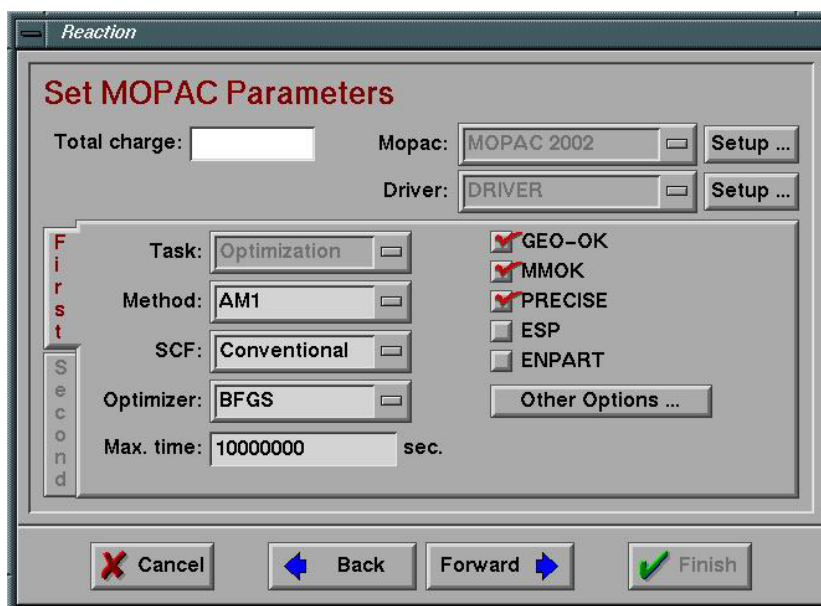

Fig 13.16 Window for specification of MOPAC keywords
- 12) Specify the parameters for MOPAC calculation (**Fig 13.16**). *Total charge* defines the total charge of studied model. It is dependent on the amino acids in the model. *Method* defines the type of semi-empirical Hamiltonian to be used for the calculation (AM1, PM3 or PM5). For *SCF* procedure conventional or much faster MOZYME option can be chosen (see *Introduction* section for more details). BFGS is suggested *Optimizer* for this type of calculations but the EF can be also chosen here. Next, some other KEYWORDS for MOPAC calculation must be specified. Optimal set of KEYWORDS is checked by default. For more details see MOPAC manual. You are also given a last chance to open *MOPAC Setup* window and *DRIVER Setup* window and configure the programs (see page 10).
- Setup the MOPAC/DRIVER calculation parameters (**Fig 13.16**). Set the total charge of the system to **-1** (Asp124 makes the system negatively charged), *SCF* to **Conventional** and *Optimizer* to **BFGS**. Select the **AM1 Hamiltonian** and increase the maximal